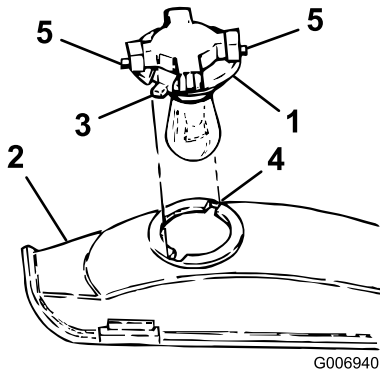

Figure 32
3. Rotate the bulb holder 1/4 turn counterclockwise and remove it from the reflector (Figure 32).
4. Align the tabs on the bulb holder (Figure 32) with the slots in the reflector, insert the bulb holder into the reflector, and rotate it 1/4 turn clockwise until it stops.